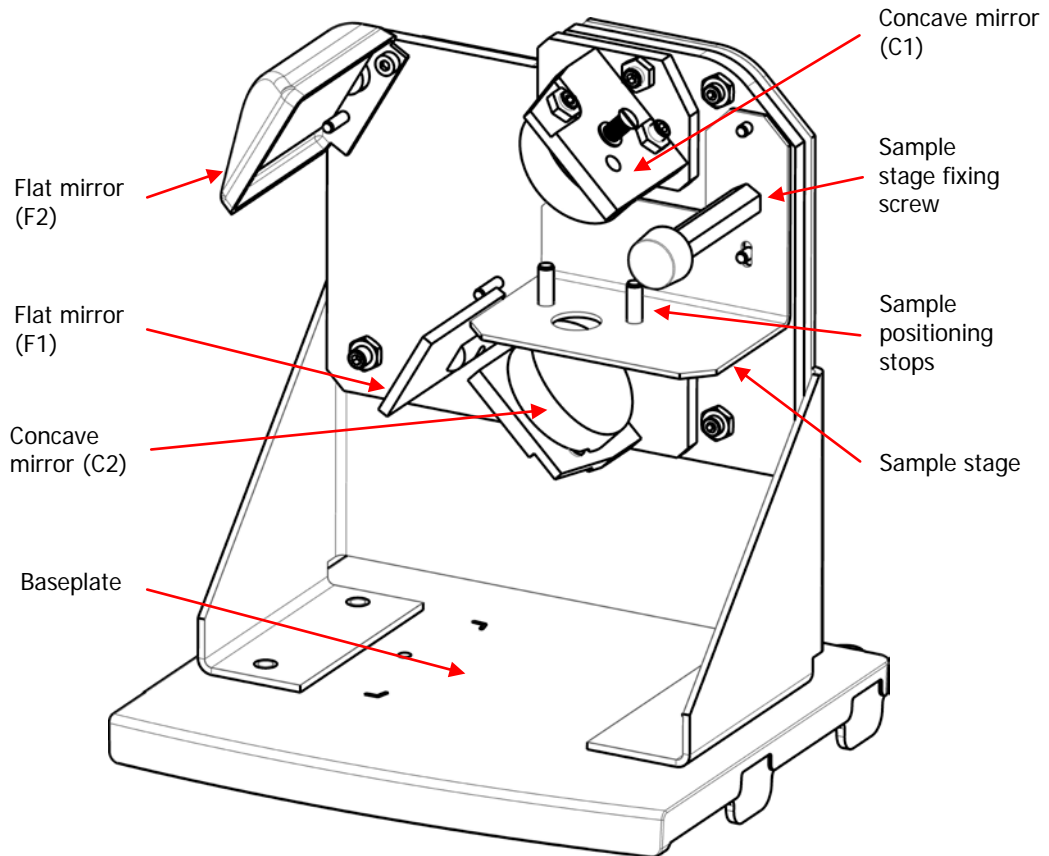

Figure 2 Main components of the beam condenser accessory
The main parts of the beam condenser accessory are shown in Figure 2 below.
5. Use the hexagonal key to adjust the socket screws in the backing plate of the upper concave mirror (designated as C1 in Figure 2) until the beam is centered on the aperture.